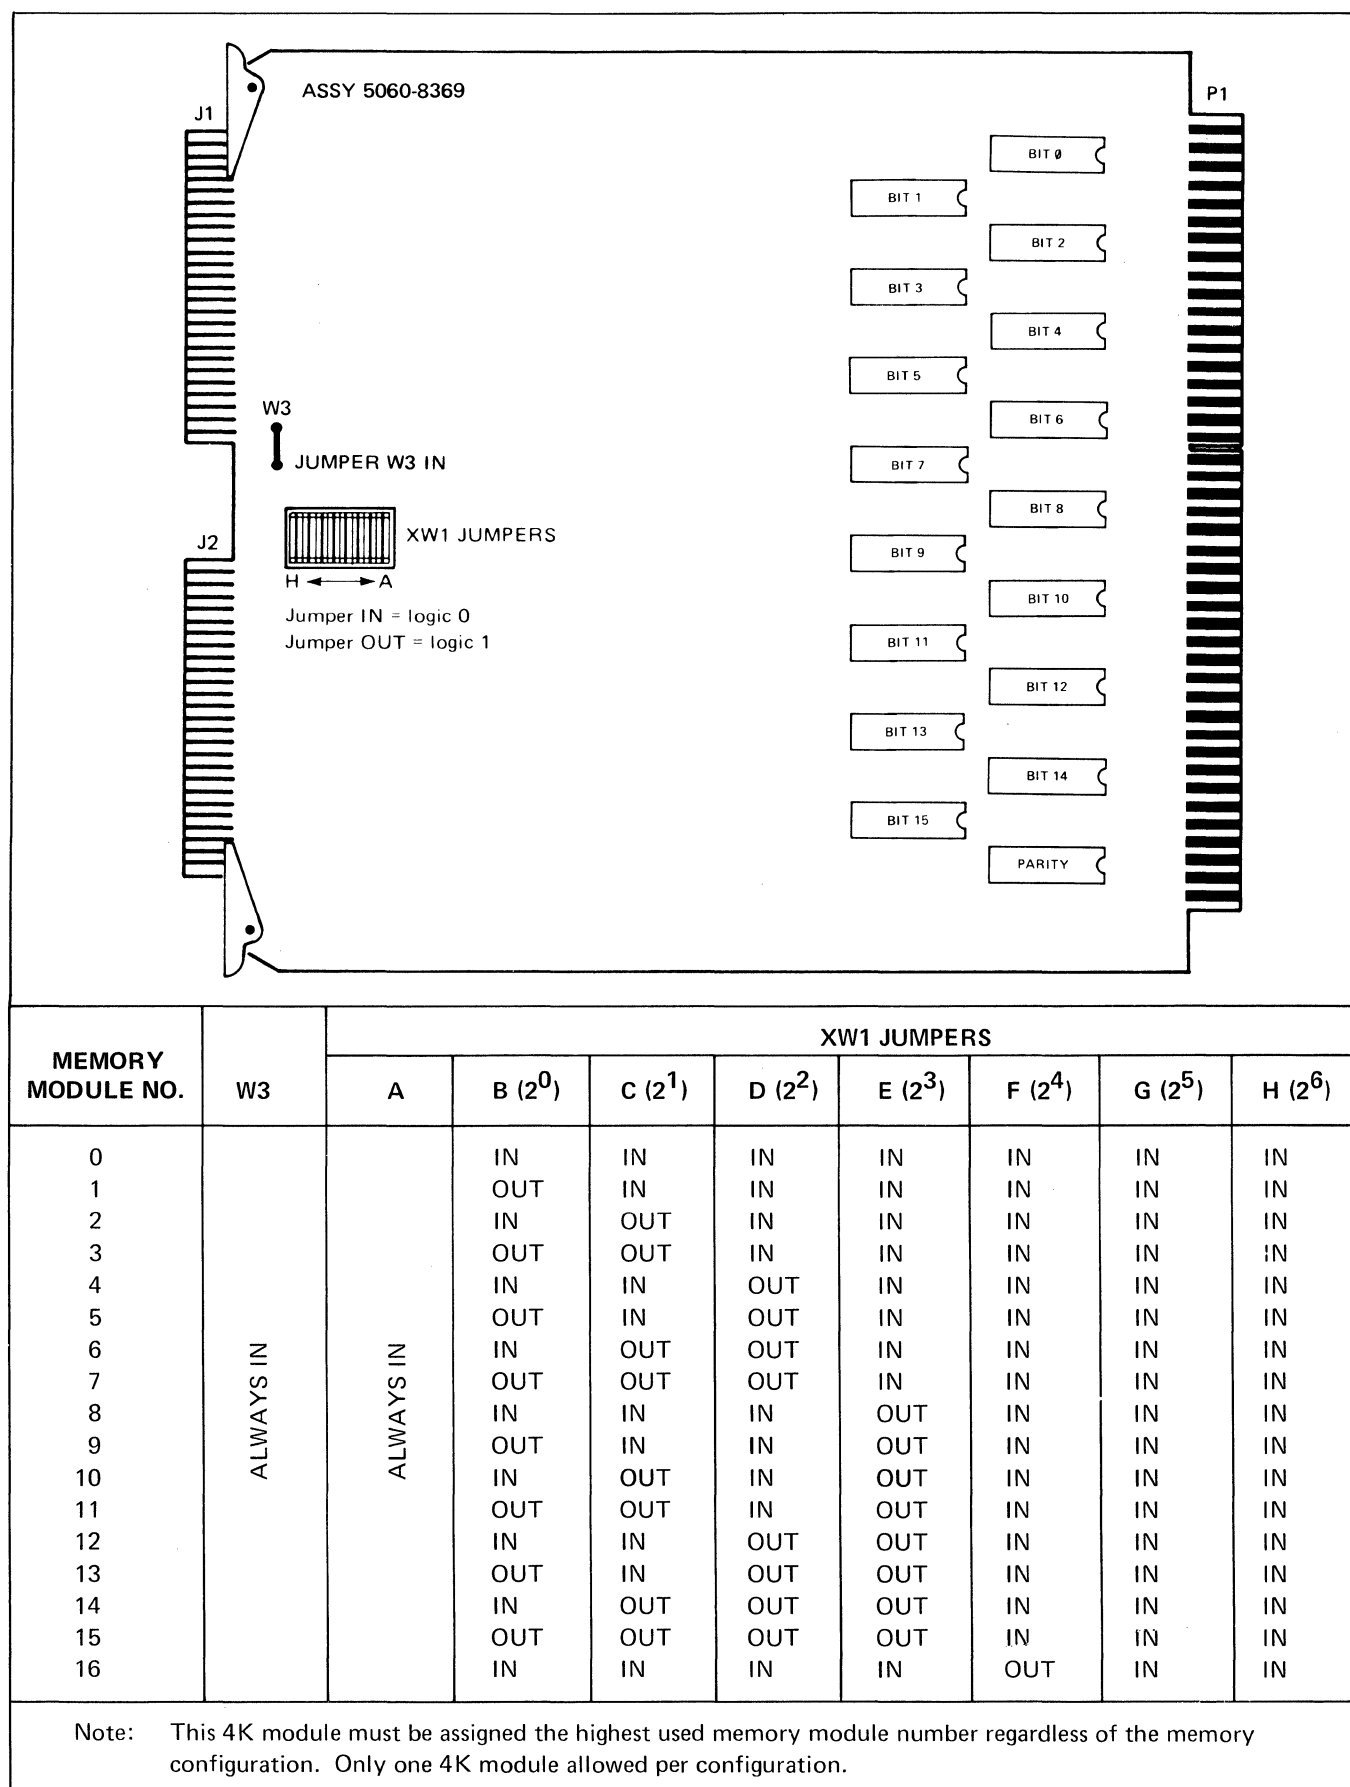

Figure 3. 4K Memory Module
- f. Reassign memory module number to displaced 4K memory module (if present) by installing XW1 jumpers as specified in figure 3.
- h. Reassign memory module number to displaced 4K memory module (if present) by installing XW1 jumpers as specified in figure 3.